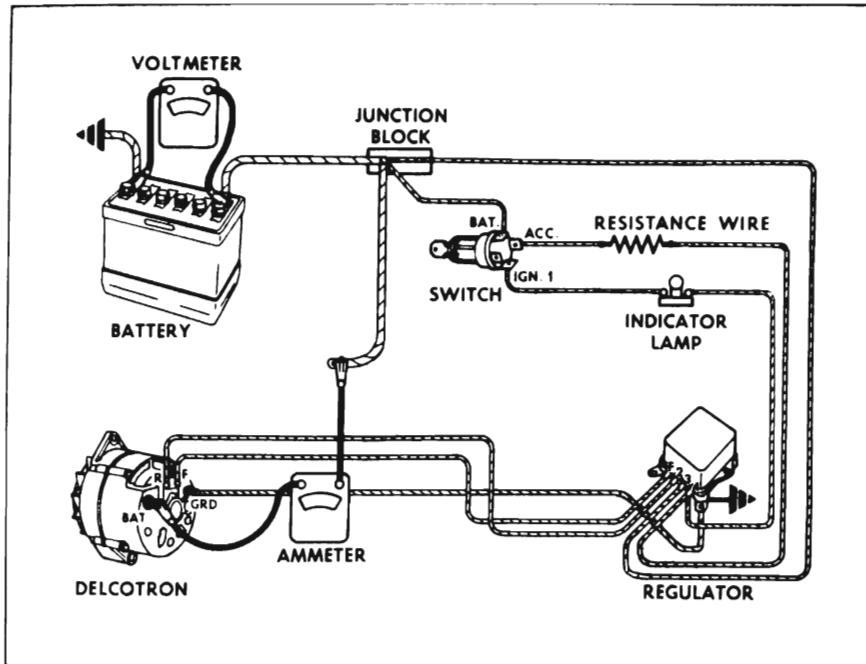

Figure 10-24—Delcotron Generator Tests
3. Connect ammeter between generator "BAT" terminal and disconnected lead as shown in Figure 10-24.
1. Test current output as described above. See Figure 10-24. Leave all test instruments in